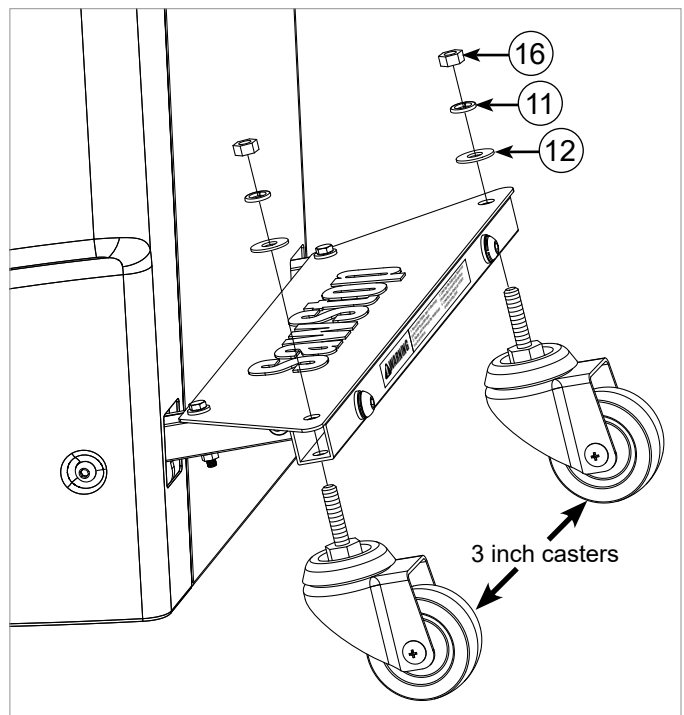

Fig. 18
18. Mount the two 3 inch casters to the outer corners of the support plate by inserting the threaded shaft on each caster up through the corresponding holes in the caster extension bar and support plate. Secure the casters in place with two M10.5 x 20 washers, two M10.5 x 17 lock washers, and two caster nuts, as shown in Fig. 18. Fully tighten the caster nuts with a 14 mm wrench.